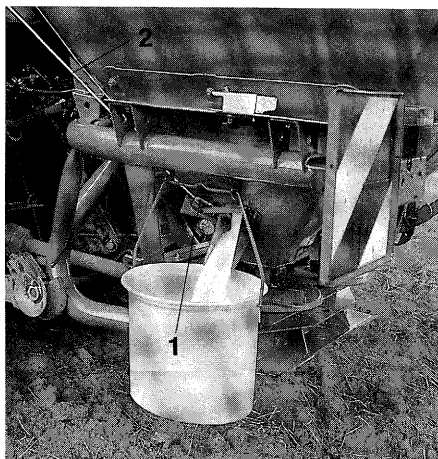

Fig. 7.7
- To ensure an even flow of fertilizer completely open the side shutter slide (Fig. 7.7/1) of the guide chute for approx. 5 seconds by means of the rope provided (Fig. 7.2/2). Thereafter pour the collected fertiliser back into the broadcaster.